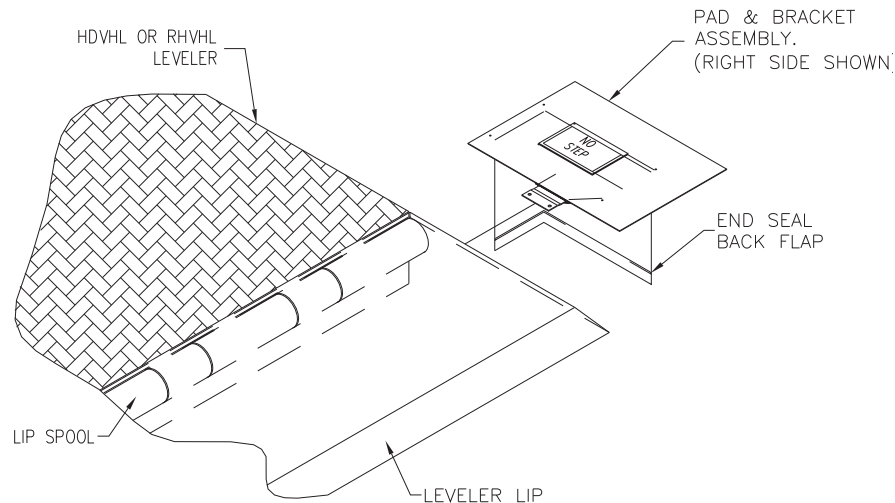

FIGURE 12
- 4) Mark the hole locations on the corner seal mounting bracket onto the underside of the leveler lip. Do this by holding up the corner seal and bracket as shown in Figure 12.